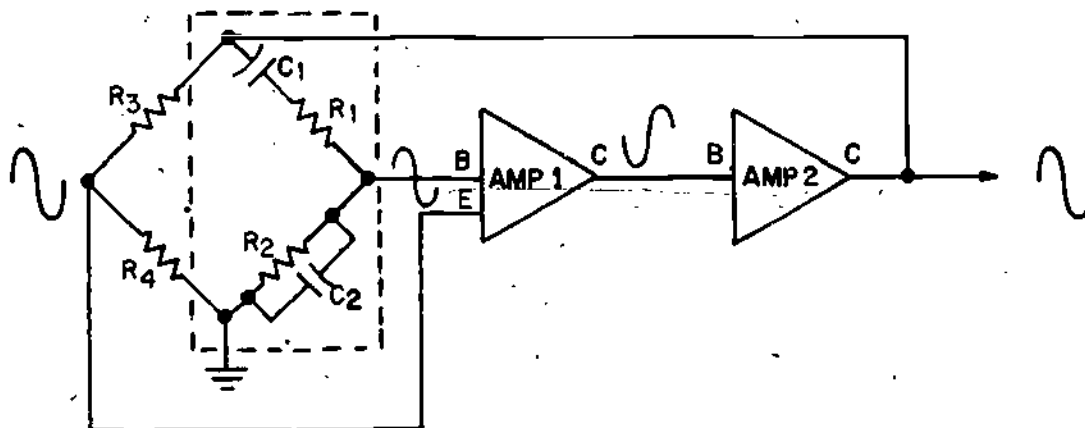

Figure 3
3. The components which determine the output frequency of a Wien-bridge oscillator are shown in the dotted region, with block diagrams for the two amplifiers which form the remainder of the oscillator circuit in Figure 3.